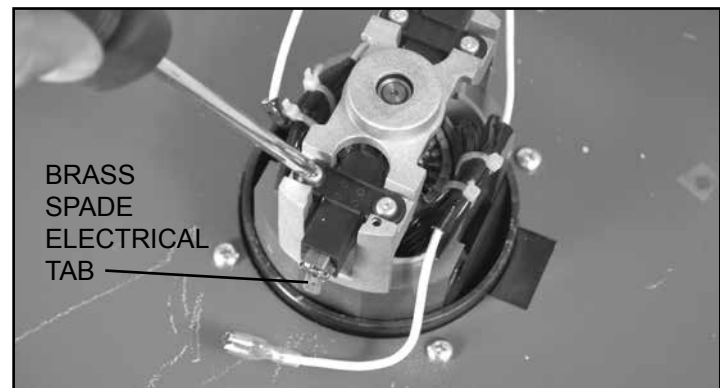

FIG. 10
- Unscrew the two Phillips head screws that hold the brush assembly the motor frame. FIG. 10.